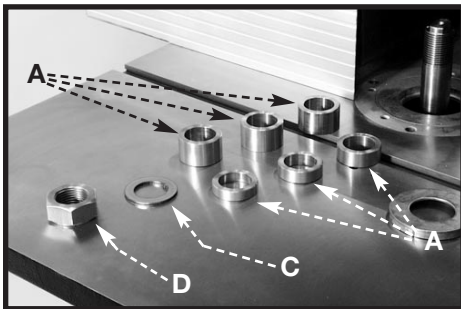

Fig. 9
1. Six collars (A) Fig. 9 are supplied with the machine. These collars allow the cutter and/or the 6-1/2" diameter spindle guard to be positioned at various locations on the spindle.
3. Determine which, if any, collars are needed. Then attach the cutter (B) Fig. 9, keyed washer (C), and spindle nut (D) Fig. 9). Place one wrench on the flats (A) Fig. 10 on top of the spindle and one wrench on the spindle nut (D). Tighten as shown in Fig. 11.